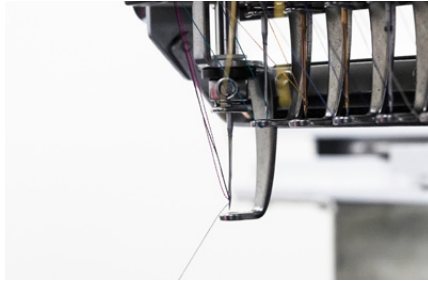

Figure 16
4. Next, grab the thread from above the presser foot and pull it carefully through until you no longer see any of the old thread. While you pull the thread, you'll see the new thread and the knot you created traveling through the thread path. Continue to pull until the knot you created passes the last point in the thread path before the needle. **See Figure 16.**